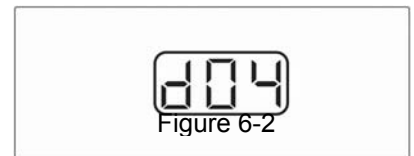

Figure 6-4
**Figure 6-4** d04 is for the 4th day of the month